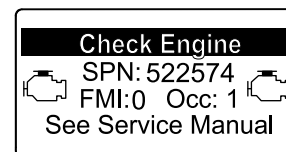

Figure 48
- Engine warning SPN 522574, FMI: 0 (Figure 48)